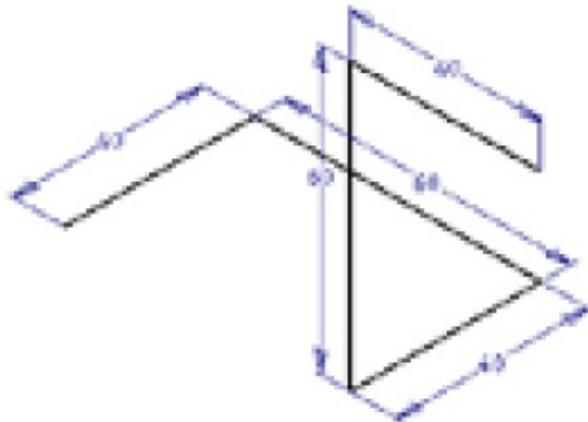

Figure 14-45 First and second 2D sketches
- b. Define a new work plane normal to the existing sketch and then create the second 2D sketch on this new work plane, refer to Figure 14-45. The start point of the first line in the second sketch should be the endpoint of the right vertical line in the first sketch.
2. Draw the next sketch starting from the origin of the sketch plane. The origin of the sketch plane is the endpoint of the right vertical line of the first sketch, see Figure 14-45.
3. Exit the sketching environment and turn off the display of the work plane. The first and second 2D sketches are shown in Figure 14-45.